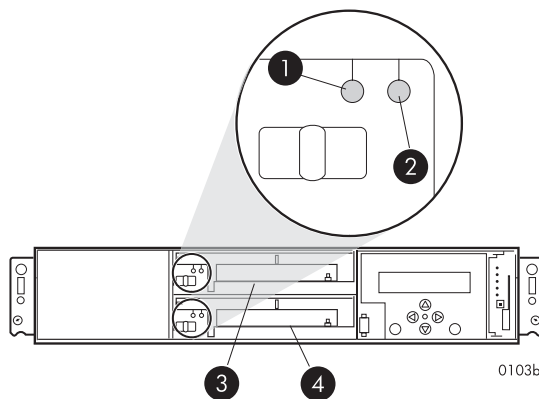

Figure 42 Blower status indicators
- Check the blower status indicators. See Figure 42. The fault indicator (2) should be on. To view the status indicators it may be necessary to remove the front panel as described in Removing a blower.
- Check the controller blower status indicators. See Figure 42
- The status indicator (1) should be on.
- The fault indicator (2) should be off.